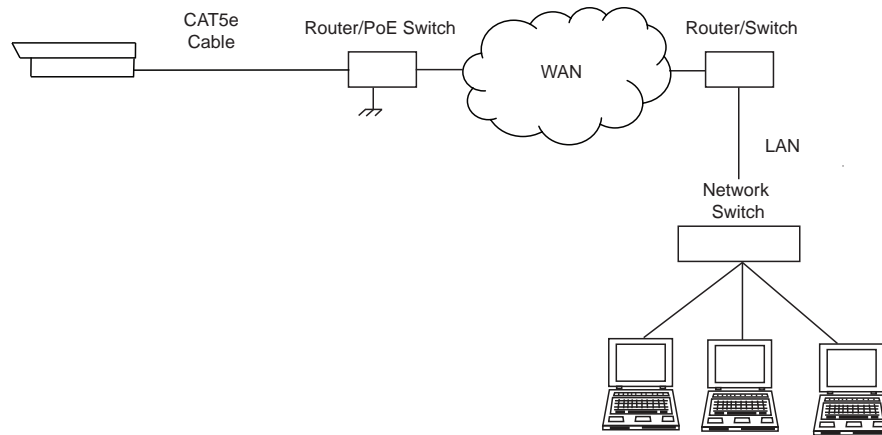

Figure 12. Interconnection Diagram with PoE-enabled switch
Figures 12 and 13 show interconnection diagrams for 7530^{HD}:
- Figure 12 shows a setup of the Camera with PoE-enabled switch.